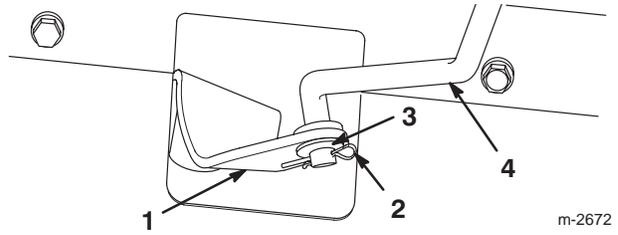
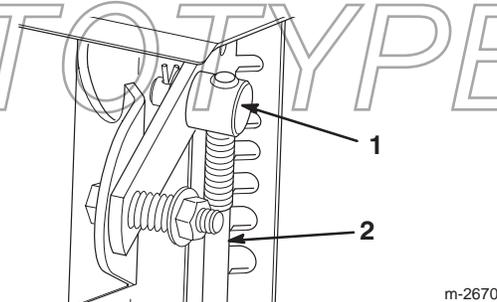

Figure 6
Figure 8
1. Pull the speed selector arm (Fig. 6) to the most outward position.
3. Rotate the speed selector rod in the trunnion (Fig. 8) until the bottom end of the rod can slip into the hole in the speed selector arm (Fig. 6).
4. Install the speed selector rod into the selector arm, add 1 flat washer on the rod, and secure it with a cotter pin (Fig. 6).